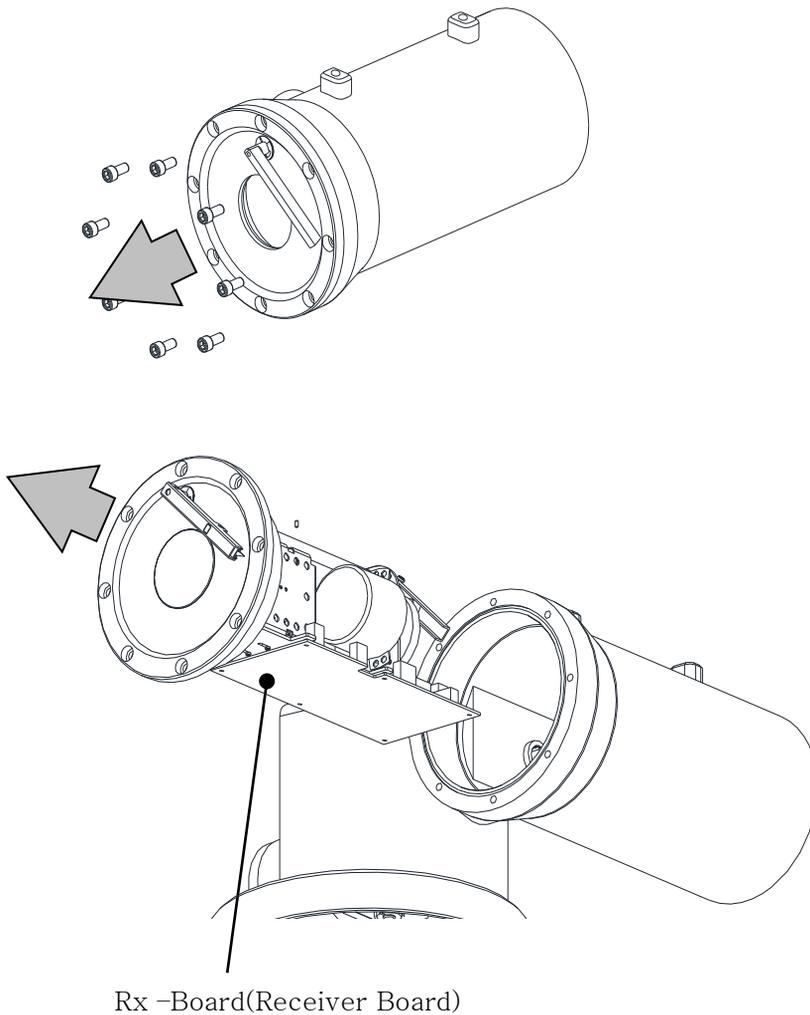

Figure4.
1. Loosen the 8ea screws and then apart the Camera Housing cover out of the Camera Housing body. Then the showing the above figure4.